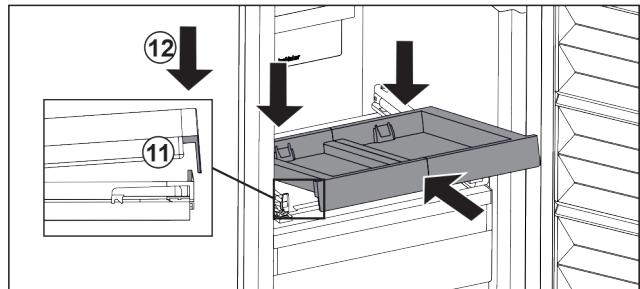

Fig. 98
- Slide it in at an angle. Make sure that the stop is behind the lug on both sides. *Fig. 98 (11)*
- Lower the pull-out board at the front. *Fig. 98 (12)*